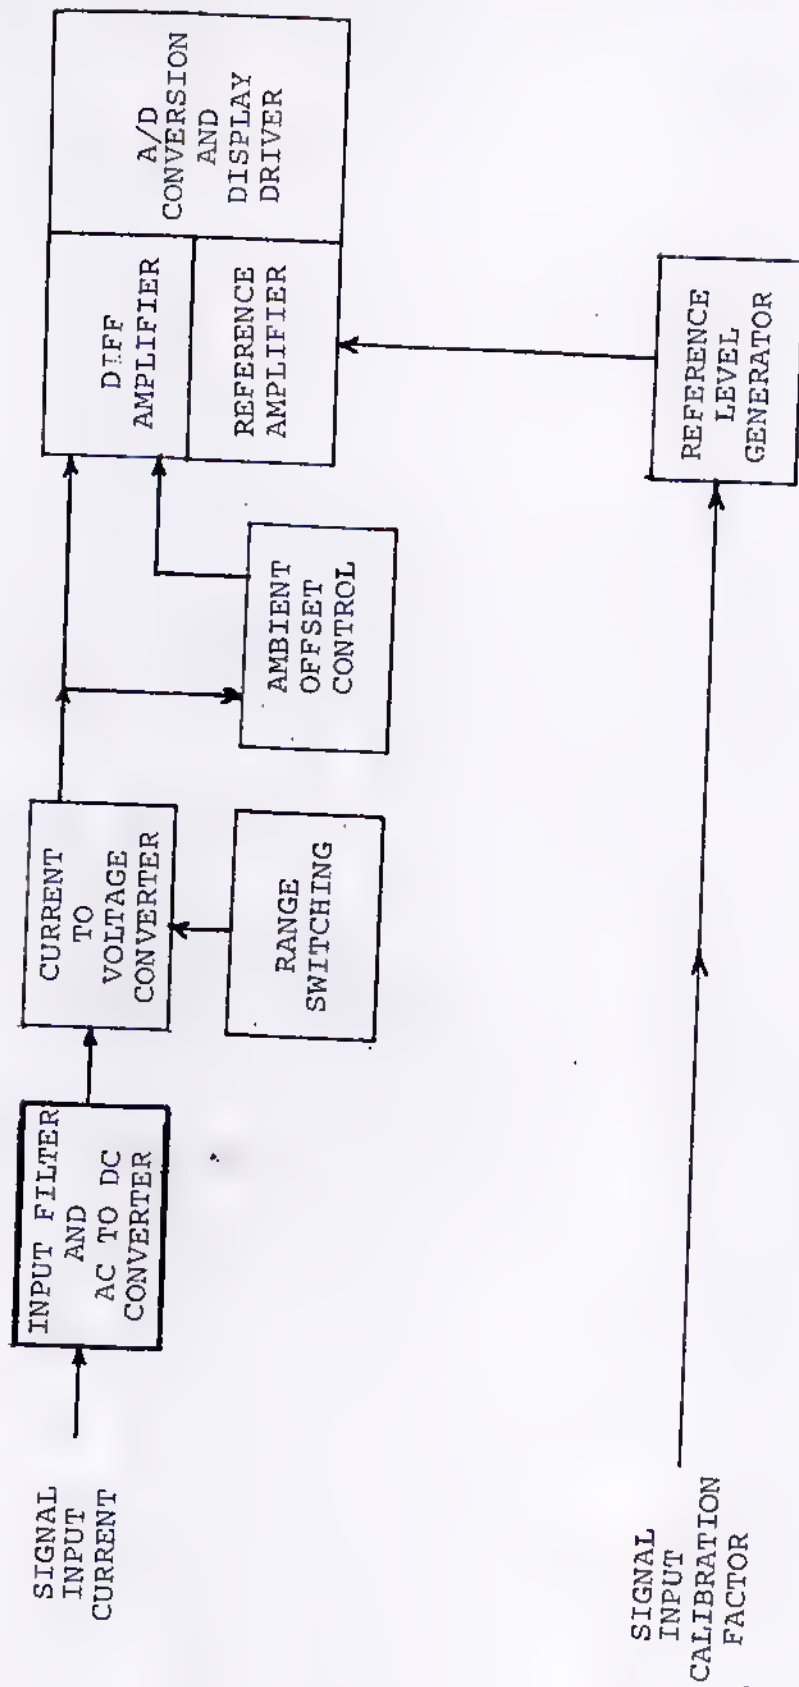

FIGURE 5-1. BLOCK DIAGRAM OF 44XL/88XL ELECTRONICS
The electronics are all arranged on a single board, including battery, switches, and display. This board is operational even when removed from the case. However, low signal level performance is lost without the shielding provided by the metal case. Circuitry breaks down into three parts: (1) Current to voltage, conversion of sensor signal currents, (2) Voltage reference generation from sensor head trim resistor, and (3) analog to digital conversion and display. The 44XL does not have the nanowatt ranges of the 88XL. Otherwise, the electronics are identical. Figure 5-1 shows an overall block diagram for the 44XL/88XL electronics. The signal input current from the SIG-IN sensor head comes onto the circuit board at location P2-3. C1 and R10 form the high frequency AC to DC passive current